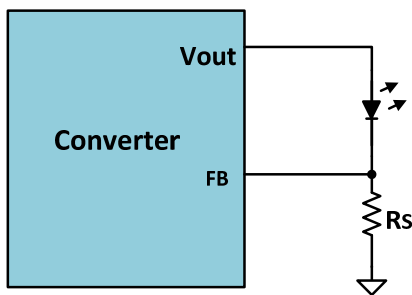
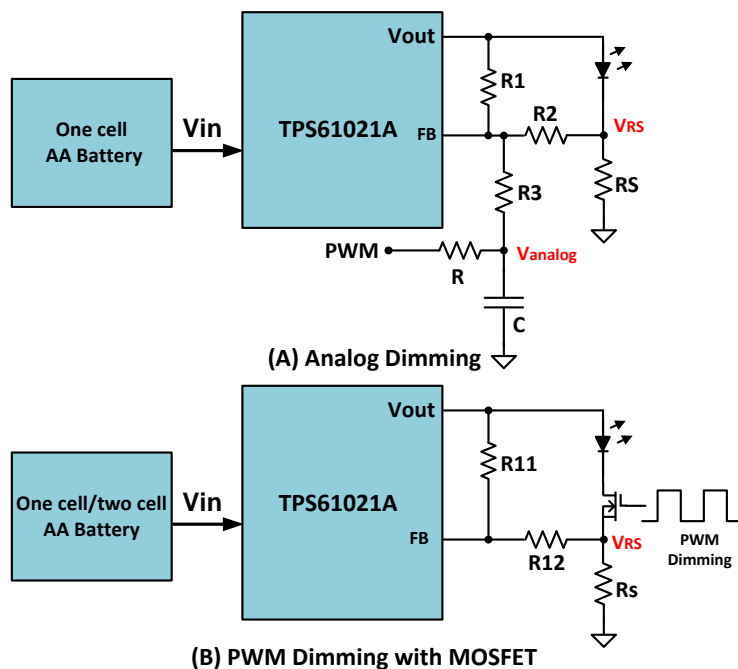

Figure 1. Basic LED driver circuit
Figure 2. Block Diagram of the PMP15037
Figure 1 is a basic LED driver circuit where the LED is connected between the Vout pin and the FB pin of the converter. The LED current is determined by V_{FB} and R_S . So the higher the FB pin voltage, the higher the loss across the R_S . Therefore, if we can make V_{FB} both contributes by the output voltage and the LED current, then the conversion efficiency can be greatly improved.
The block diagram of reference design PMP15037 is shown in Figure 2. This reference design delivers a high efficiency LED driver circuit with dimming function with the boost converter TPS61021A. The PWM dimming method (Figure 1. (A)) can be used in the one cell or two cell AA battery input application. The analog dimming method (Figure 1. (B)) can be used in the one cell AA battery input application. The TI design PMP15037 is very simple, it realizes the dimming function by just adding several resistors and one MOSFET into the circuit. So this is a low cost and high efficiency solution for the LED driver application.